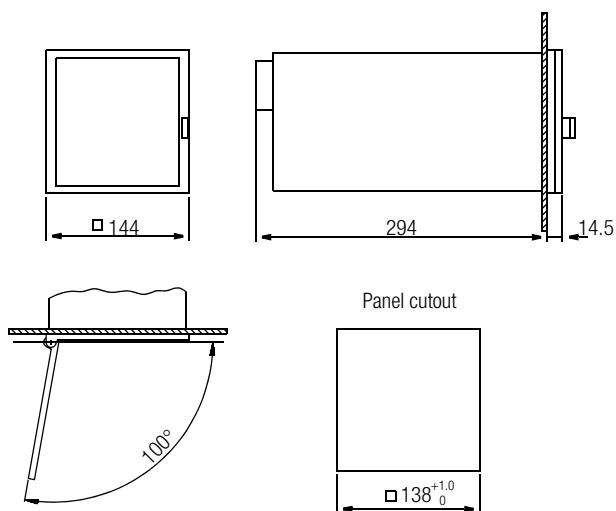

Figure 2 Dimensional drawing POINTAX 6000M (dimensions in mm)
1.3 Installation (see Figure 2 and Figure 3)